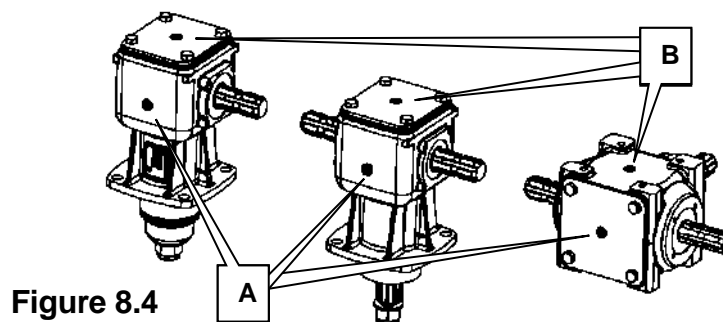

Figure 8.4
Remove the oil level plug; see Figure 8.4 (A); on the side of the gearbox, and check that the oil is filled up to that level.
To top up the gearbox oil level, remove the oil filler plug, see Figure 8.4 (B), and carefully top up with oil until the oil starts to flow from the level plug item(s) 2 in Figure 8.4. Use only the recommended grade of oil. For further information refer to Lubricants section.